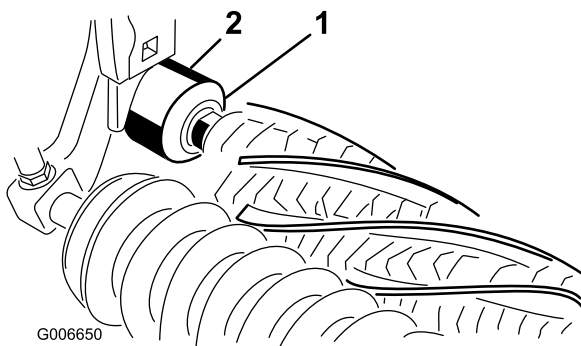

Figure 25
26. Make sure the seal lip on each excluder seal, is in light contact with each bearing housing (Figure 25).